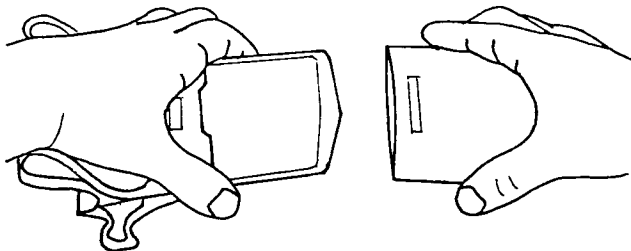

Fig. 8
2. To put the Film Retainer and Cover Envelope together, push the outer windows of the Film Retainer down so that the inner film holding portion sticks out as shown in Fig. 8. Feed the inner portion into the envelope.